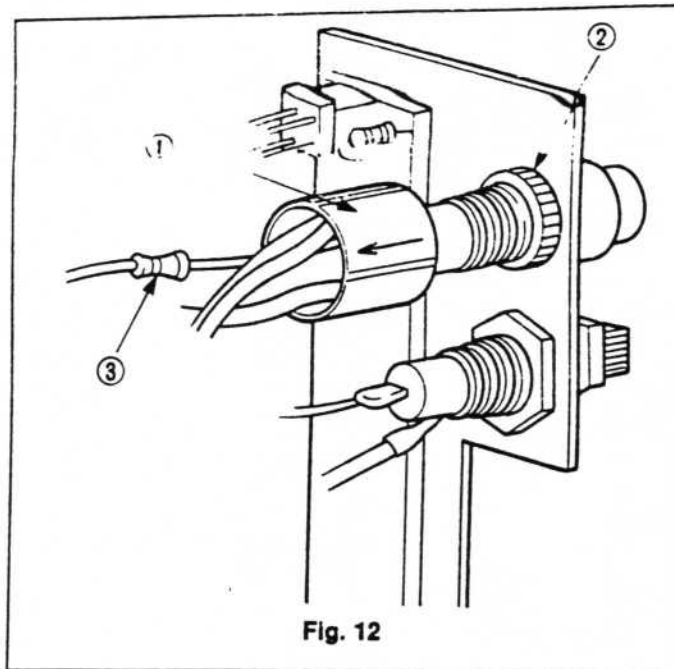

Fig. 12
- (1) Remove the T.F. connector plate in accordance with "6. Removal of the T.F. connector plate".
- (2) Remove the insulation cover ① from the switch in the direction indicated (see Fig. 12).
- (3) Unsolder switch leads with a soldering iron.
- (4) Turn the ring ② holding the switch counterclockwise and remove it.
- (3) Remove the resistor lead ③ (33 k ohm 1/4 W) from the soldered connection with the switch and also on the opposite side (see Fig. 12).